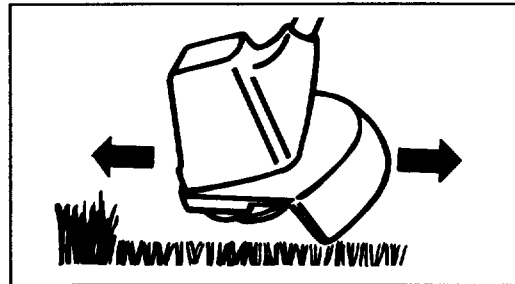

Figure 11
4. Slowly move unit into and out of area being cut, maintaining unit at desired cutting height. This can be either a forward-backward or side-to-side motion as indicated (Figs. 11 & 12).